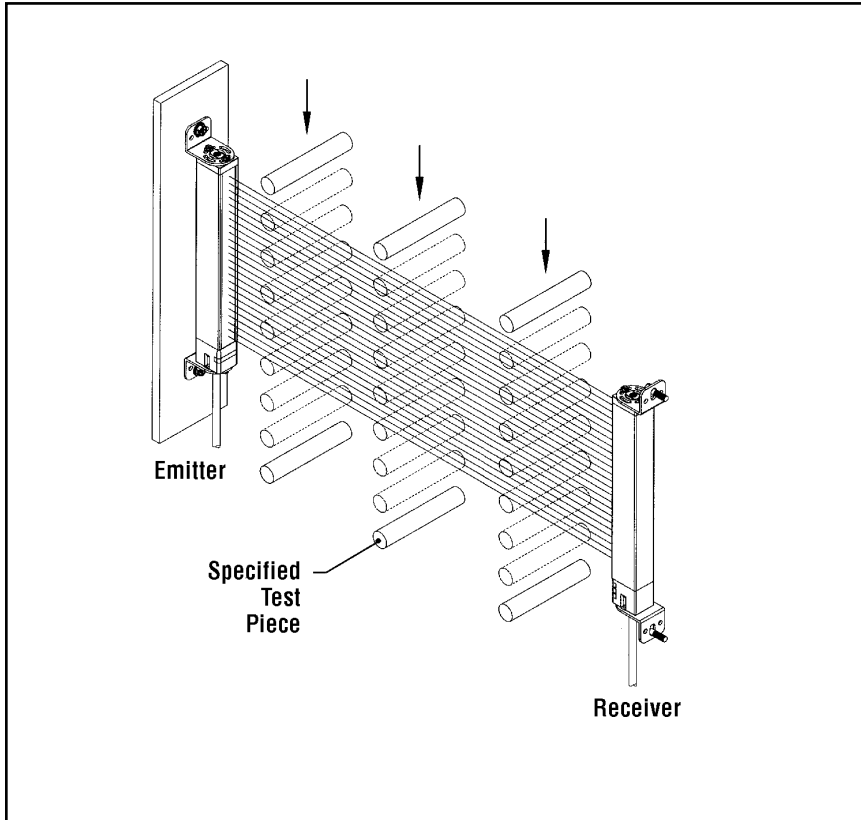

Figure 6-6. MICRO-SCREEN trip test
- b) With the guarded machine at rest, slowly pass the appropriate specified test piece downward through the defined area at three points, taking care to hold the test piece perpendicular to the defined area: close to the receiver column, close to the emitter column, and midway between the emitter and receiver columns (Figure 6-6). In each case, the red Light Screen status indicator should come ON and remain ON and the green System status indicator must go OFF for as long as the test piece is within the defined area. When the test piece is withdrawn from the defined area, the green Light Screen status indicator should come ON. If the green Light Screen indicator comes ON at any time when the test piece is within the defined area, check for reflective surfaces, or unguarded areas created by use of fixed blanking (see Warnings, page 76). **Do not continue until the situation is corrected.** (See Sections 3.2.2 and 3.2.4.) Perform a System Key Reset to reset the latch after each pass of the test piece.
- b) With the guarded machine at rest, pass the *appropriate specified test piece* downward through the defined area at three points, perpendicular to the defined area: close to the receiver column, close to the emitter column, and midway between the emitter and receiver columns (see Figure 6-6). In each case, the red indicator must come ON and remain ON for as long as the test piece is within the defined area. When the test piece is removed from the defined area, the green Light Screen status indicator should come ON (if blanking is ON, the green Light Screen status indicator will be flashing). If the green Light Screen status indicator comes ON at any time when the test piece is within the defined area, check for reflective surfaces, or unguarded areas created by the use of fixed blanking (see WARNINGS, page 76). **Do not continue until the situation is corrected.** (See Sections 3.2.2 and 3.2.4). Perform a System Key Reset to reset the latch after each pass of the test piece.